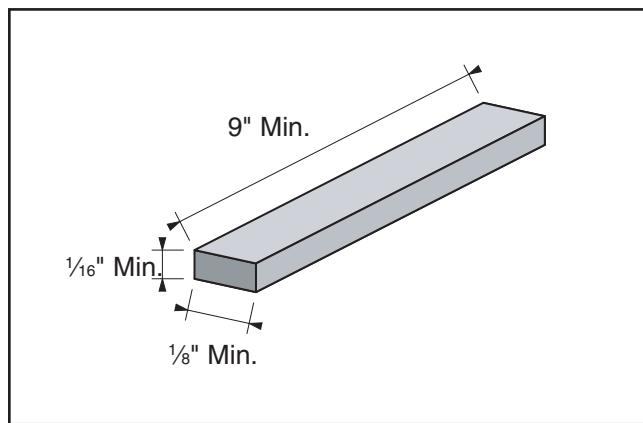

Figure 53. Minimum dimensions for sanding.
- **Workpiece Dimensions:** DO NOT sand boards less than 9" long, $\frac{1}{8}$ " wide and $\frac{1}{16}$ " thick to prevent damage to the workpiece to reduce the risk of your hands contacting the abrasive belt (see **Figure 53**).